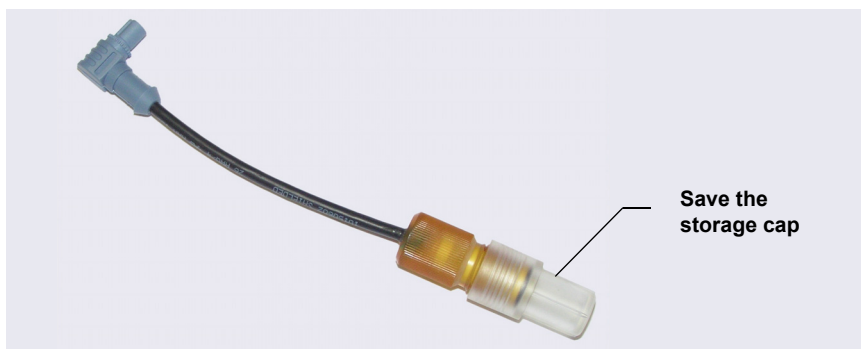

Figure 10-64. pH-Ag/AgCl Reference Electrode in Storage Cap
3. Unscrew the storage cap from the new pH-Ag/AgCl reference electrode (see Figure 10-64). Save the cap.